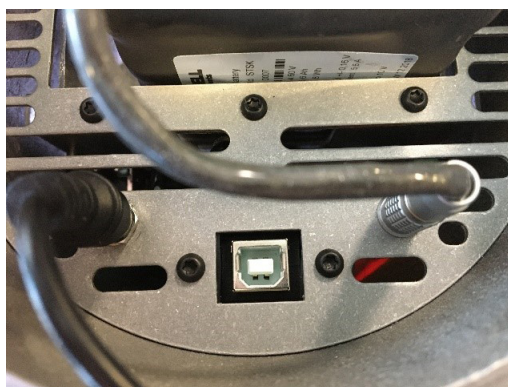

Figure 38 USB Port
4. Attach a USB B connector to the CDP301 USB Port (See Figure 38, USB Port) and the other end to a laptop or PC.